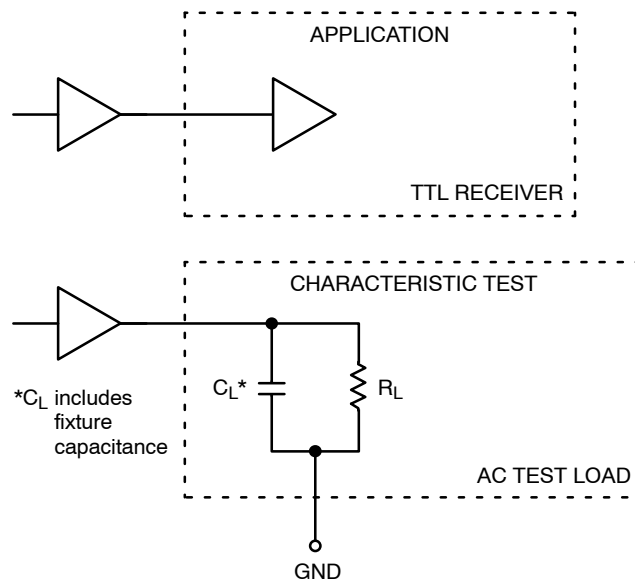

Figure 3. TTL Output Loading Used for Device Evaluation
- Measured with a 750 mV 50% duty-cycle clock source.  $R_L = 500\ \Omega$  to GND and  $C_L = 20\text{ pF}$  to GND. Refer to Figure 3.